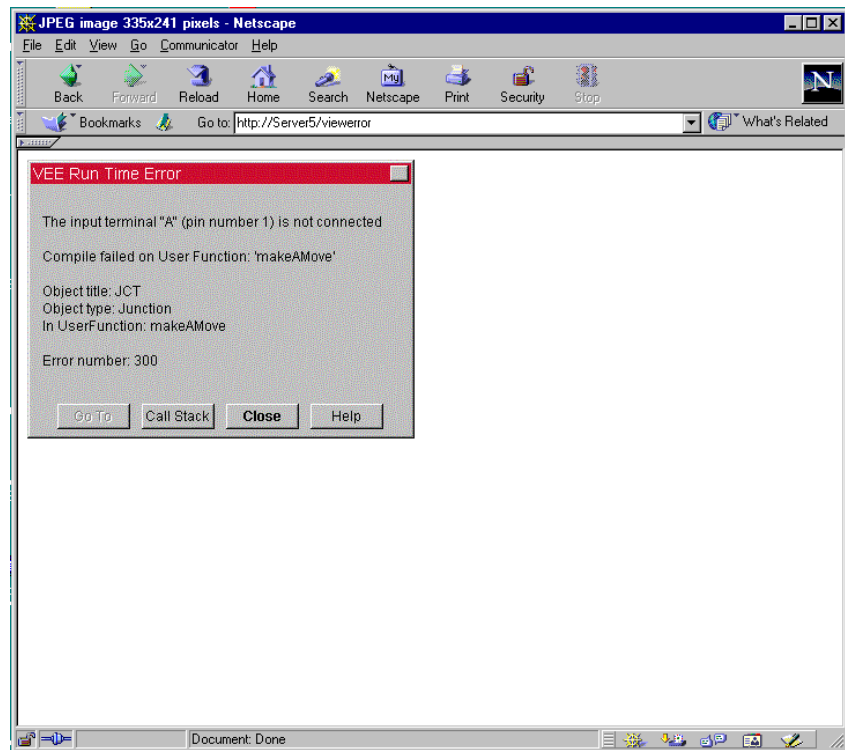

Figure 12-9. Displaying a VEE Error Message, using the Browser
5. The remote user clicks `Back` in the browser to display the VEE Web Server Home Page and chooses `Last Error Message`. The browser displays the error message shown in Figure 12-9.